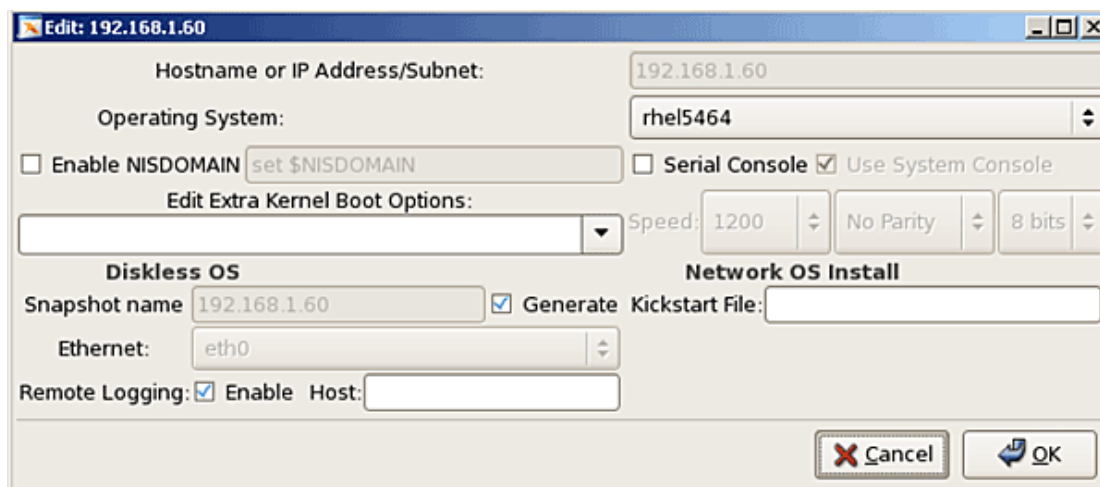

Figure B-5 Edit Dialog Box
2. In the Hostname or IP Address/Subnet field, enter the IP address, fully qualified hostname, or a subnet of systems that should be allowed to connect to the PXE server for installations. In Figure B-5, the Hostname/IP Address is the IP address of the client machine.